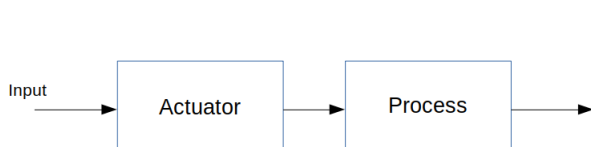
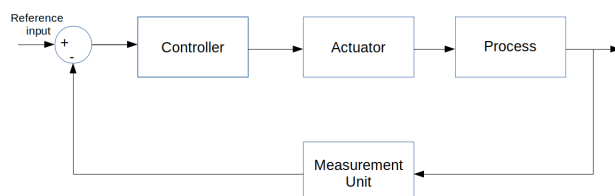

Figure 3: Open-loop system
Figure 4: Closed-loop system
1. Is the designed system an open-loop system or a closed-loop system? Depending on your answer map the components of your system to the different building blocks of an open-loop/closed-loop system as shown in Figure 3 and Figure 4 (modify the blocks if required).